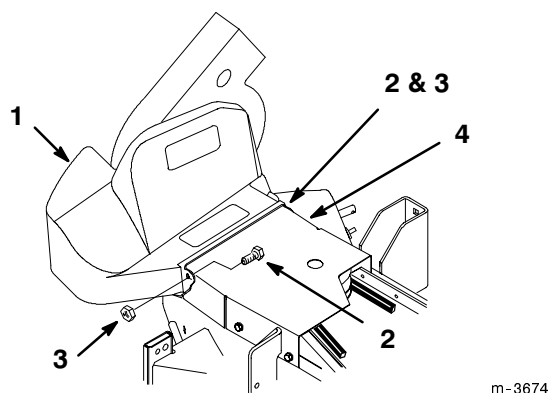

Figure 24
1. Remove the blower belt cover by removing (2) 1/4" locknuts and 1/4 x 5/8" (16 mm) bolts (Fig. 24).